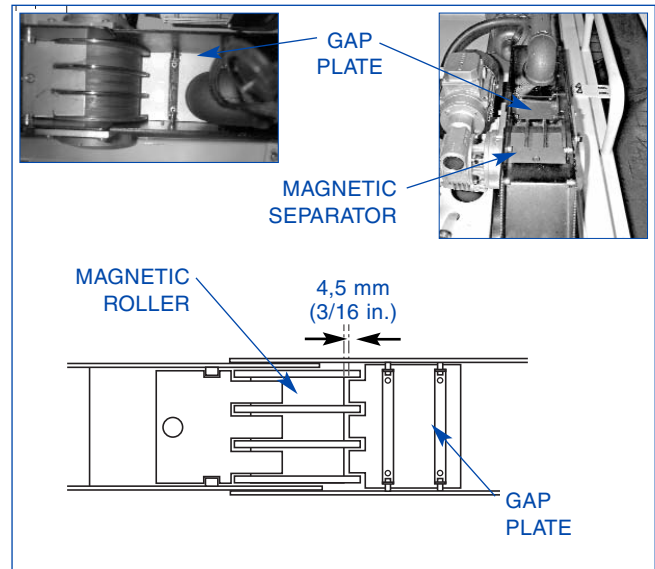

FIGURE 4-11, Magnetic Separator
3. Periodically: Drain Inlet Hopper, wipe clean, and adjust Gap Plate as required (see Figure 4-11). Proper Gap setting is 4,5mm + 1mm (3/16 in + 1/16 in).